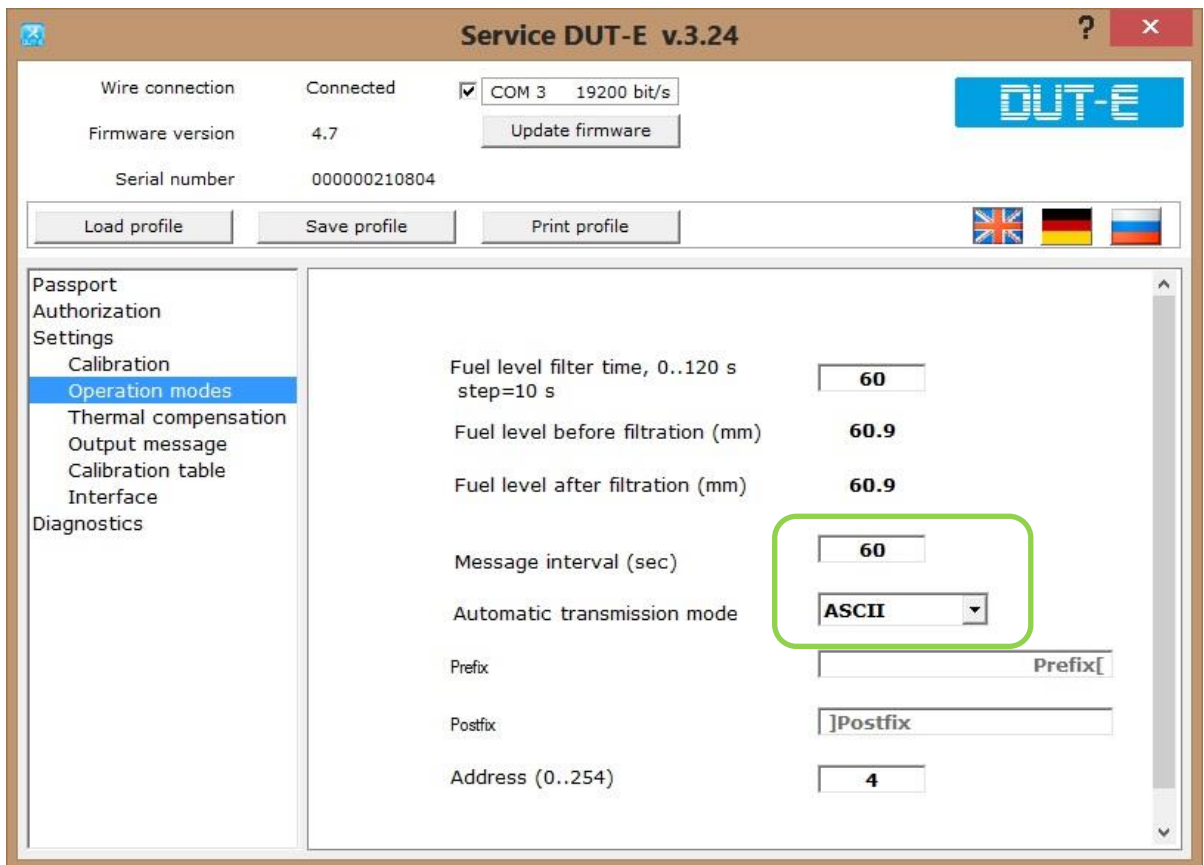

Рисунок 1
- 3.2. We should set automatic transmission mode ASCII with time interval - 60 seconds (Figure 1).